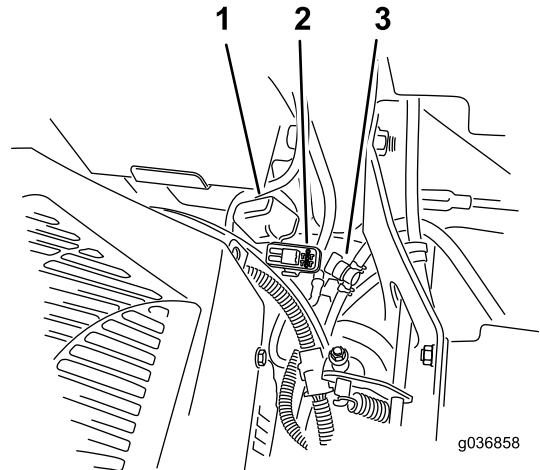

Figure 64
Note: For MyRide machines, ensure that the ground cable does not rub against the trailing arm or lower shock mount (Figure 64).
The fuses are located on the right console next to the seat (Figure 64).
2. Install a new fuse (Figure 64).